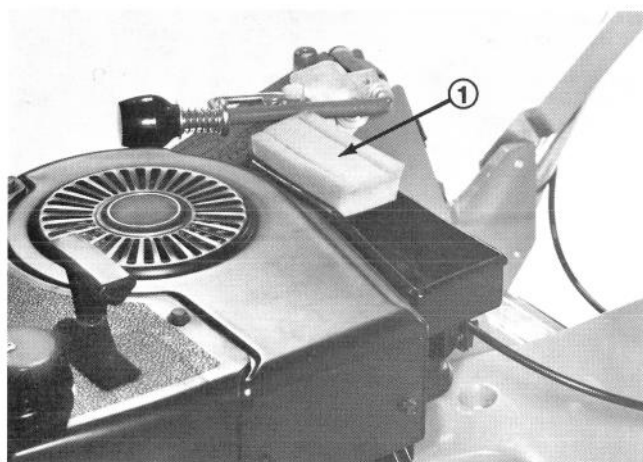

Figure 26
2. Inspect air cleaner element (Fig. 26). If necessary remove and clean.
D. Place element into the air cleaner body (Fig. 26).